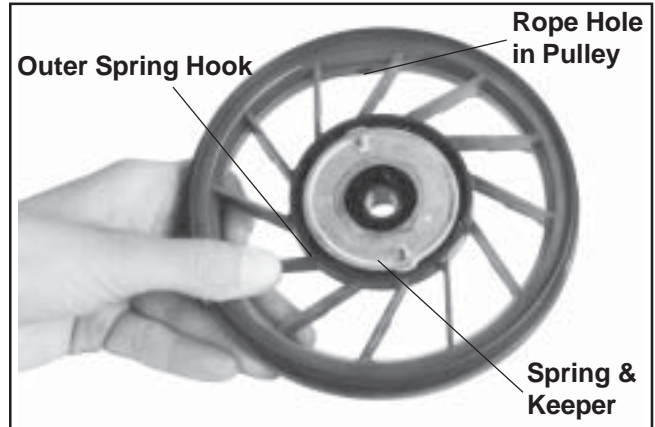

Figure 7-7. Position of Spring and Keeper in Pulley.
8. Note the position of the spring and keeper assembly in the pulley. See Figure 7-7.
1. Make sure the spring is well lubricated with grease. Place the spring and keeper assembly into the pulley (with spring toward pulley). See Figure 7-7.